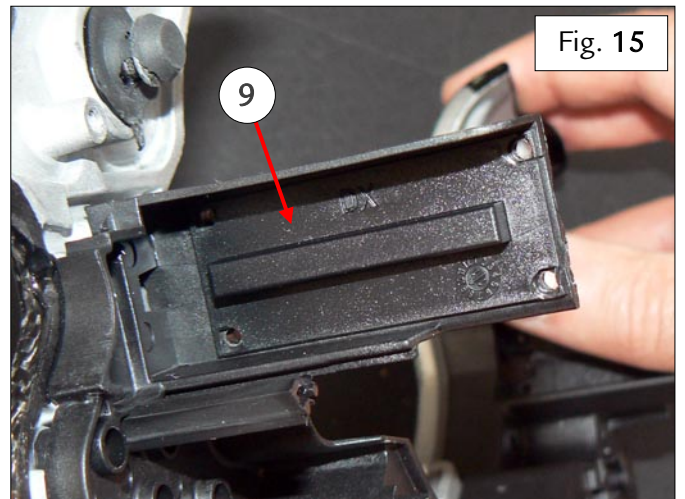

Fig. 15
- Retrieve the spacer (9) beneath the windscreen wiper switch – Fig. 15.